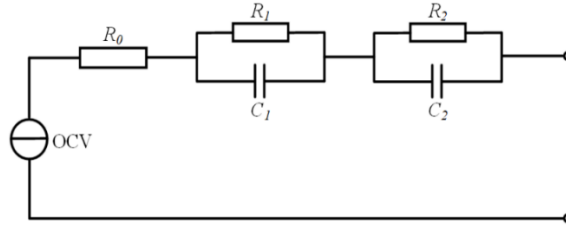

Fig. 4. A typical battery equivalent circuit with two RC pairs.
- 1> The parameters are defined as **open-circuit voltage (OCV)**, **resistances (Rs)** and **capacitances (Cs)** in an equivalent circuit, as *Fig. 4*.
- 2> The extracted parameters are **SOC** dependent and can also be **temperature (T)** and/or **current (I)** dependent.